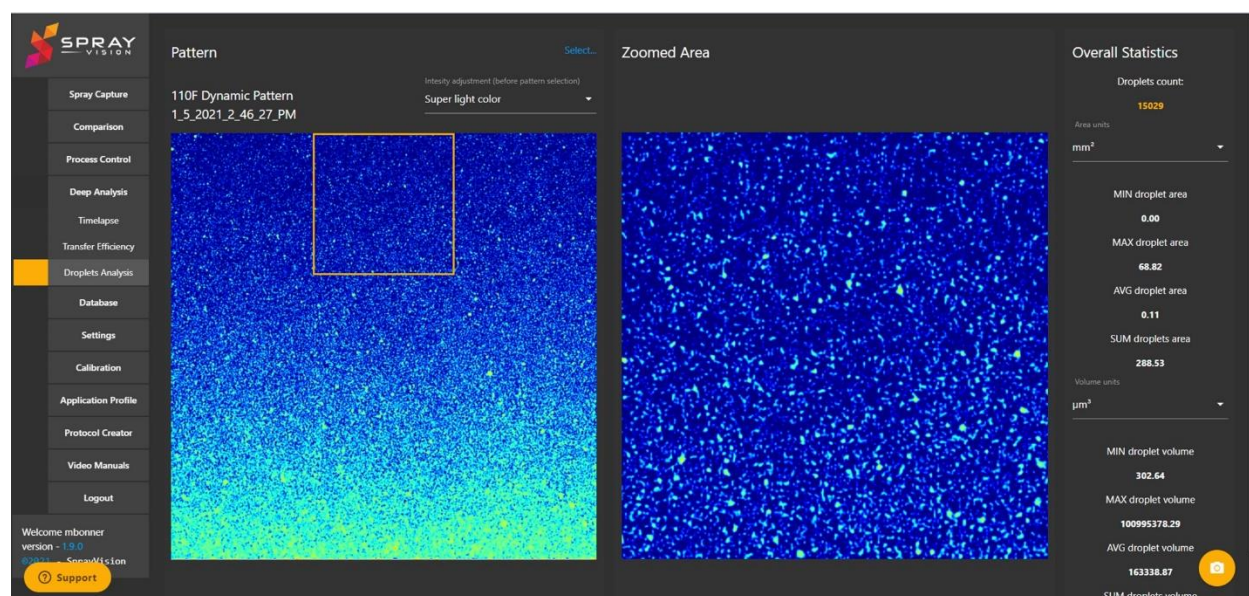

Figure 25: Droplet Analysis in Overspray Area
Another important feature of the SprayVision system is its ability to capture and analyze patterns at the droplet level. Shown in Figures 25 through 27 this allows a small, select area to be captured and processed with extremely fine detail. Once the capture is completed, the captured area is broken down into nine (9) smaller sub-areas which can then be viewed and analyzed separately.
In Figure 25 we can see the total Droplet Analysis pattern, and the top center frame in the "Zoomed Area". Here, in the overspray area, the droplets are small and mostly separated.